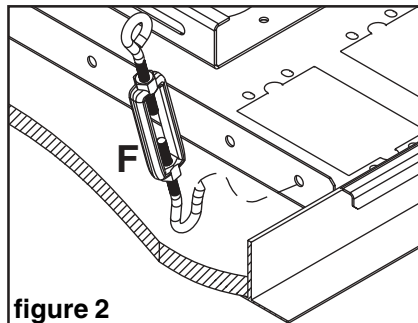

figure 2
**4** Snap escutcheon ring (M) around flush mount tube or extension column and slide up until flush with ceiling tile. Hook turnbuckles (F) into ceiling tray (A) as shown in **figure 2**. Hook turnbuckles through ceiling tray (A) where indicated by black rectangles in illustration below.